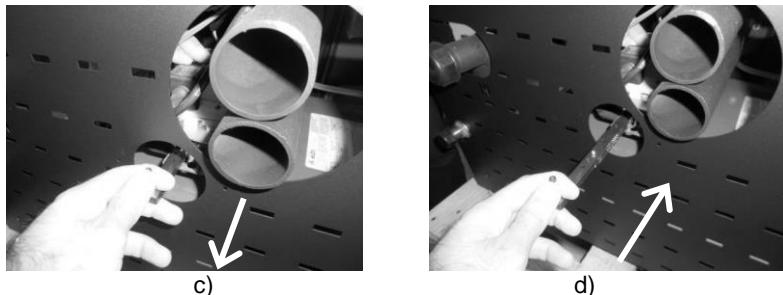

Figure 10 – The cleaning motor
**⚠** At the first start of the boiler or After some time without use, the linear cleaning motor might create some mechanical resistance to movement, hindering its proper functioning. Before putting the boiler into operation you must press the black button, in the upper zone of the motor (fig. 10-a), and holding the button (fig. 10-b), move the arm repeatedly back and forth (as shown in the figures 10-c and d) until it returns to work normally.